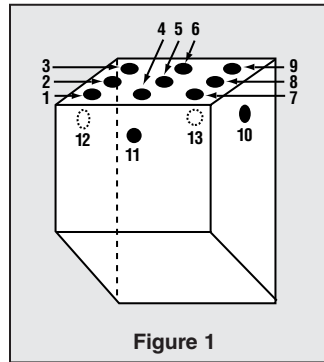
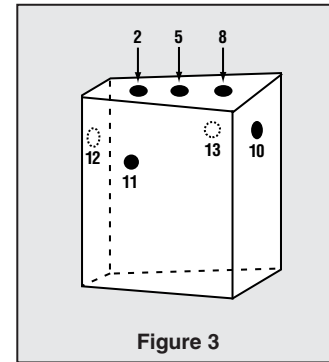

Figure 1
Figure 3
**Beveled Brushes** (Figure 1) the short face is to be held toward the observer.
**Wedge-Shaped Brushes** (Figure 3) the brush is to be held as shown with the narrow edge to the left. The shunt locations take the number 2-5-8, beginning at the left and corresponding with those of the top face center row in Figure 1.